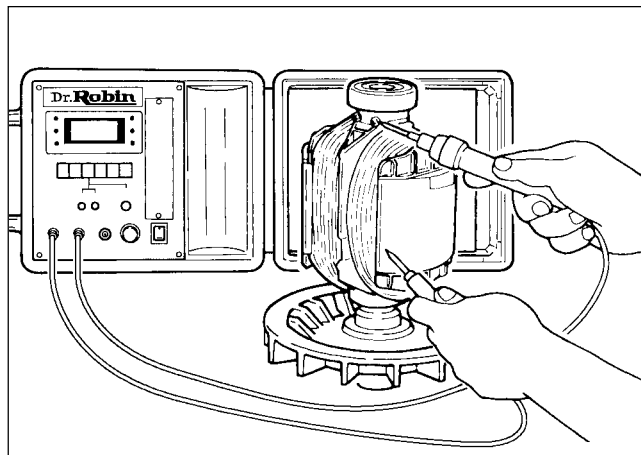

Fig. 2-6
(3) Measure the insulation across one of the soldered terminals of the rotor and the core. (Fig.2-6)